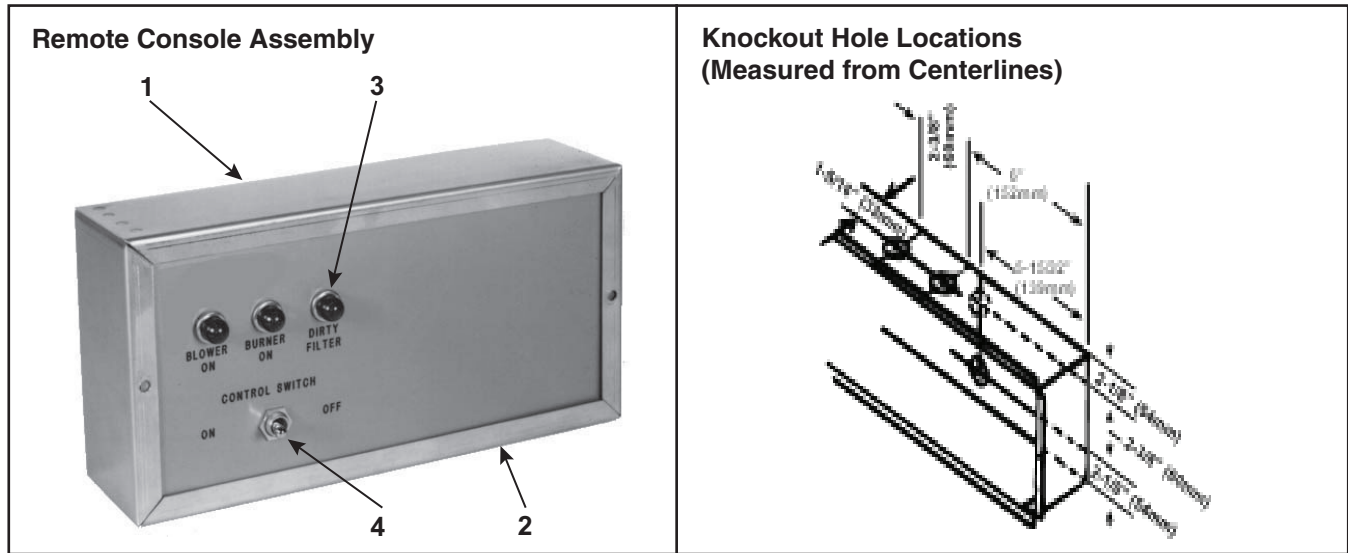

Figure 41. Remote Console Assembly (Refer to Table 58)
- The remote console box (see Figure 41) is provided with knockout holes for field wiring. The cover is made of plastic with custom engraving. The remote console includes a mounting ring (refer to Table 58) so that the console may be either recessed or wall-mounted.